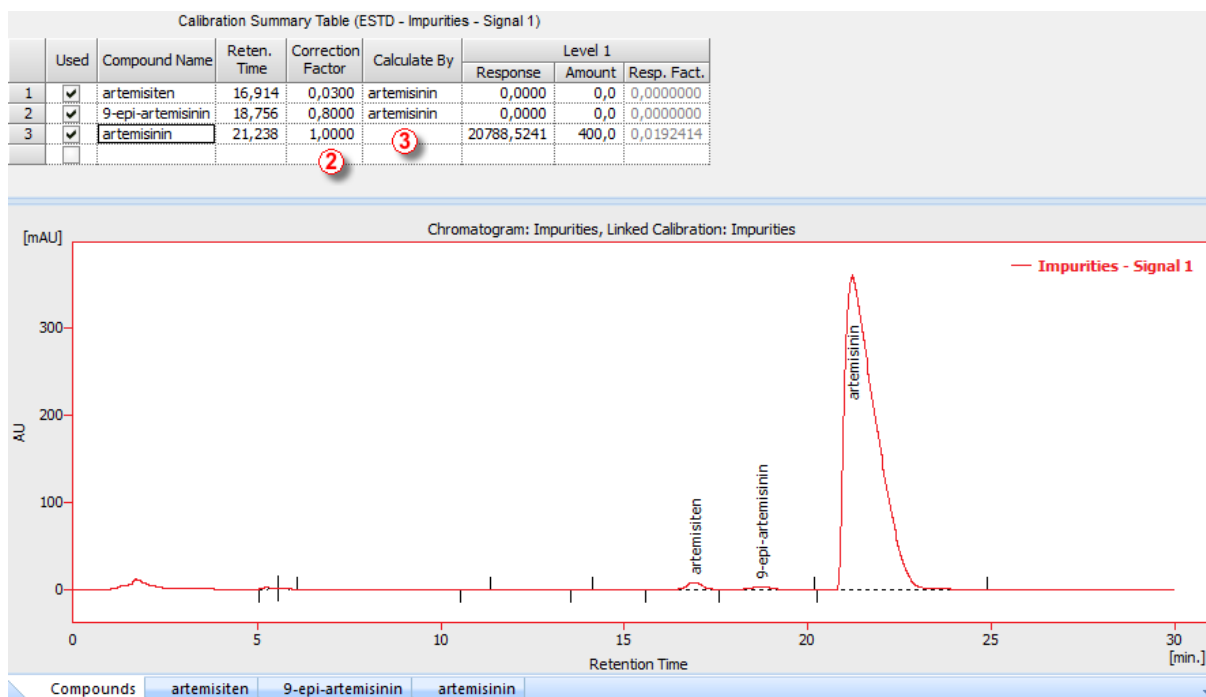

Fig. 4 – Calibration for percent content determination of the impurities.
The second equation defines determination of the percentage content of artemisiten, 9-epi-artemisinin and all other unspecified impurities. This equation introduces response factors that can be set in calibration file as correction factors ②. The correction factors are about to be set in the respective calibration file, in this case the calibration file is called "Impurities". As the impurities content calculation is related to artemisinin it is necessary to add this relation into calibration file. This can be done when applying "Calculated By" ③ column where is about to be selected artemisinin as a calculation basis. See the setting of the related calibration file on the figure 4.